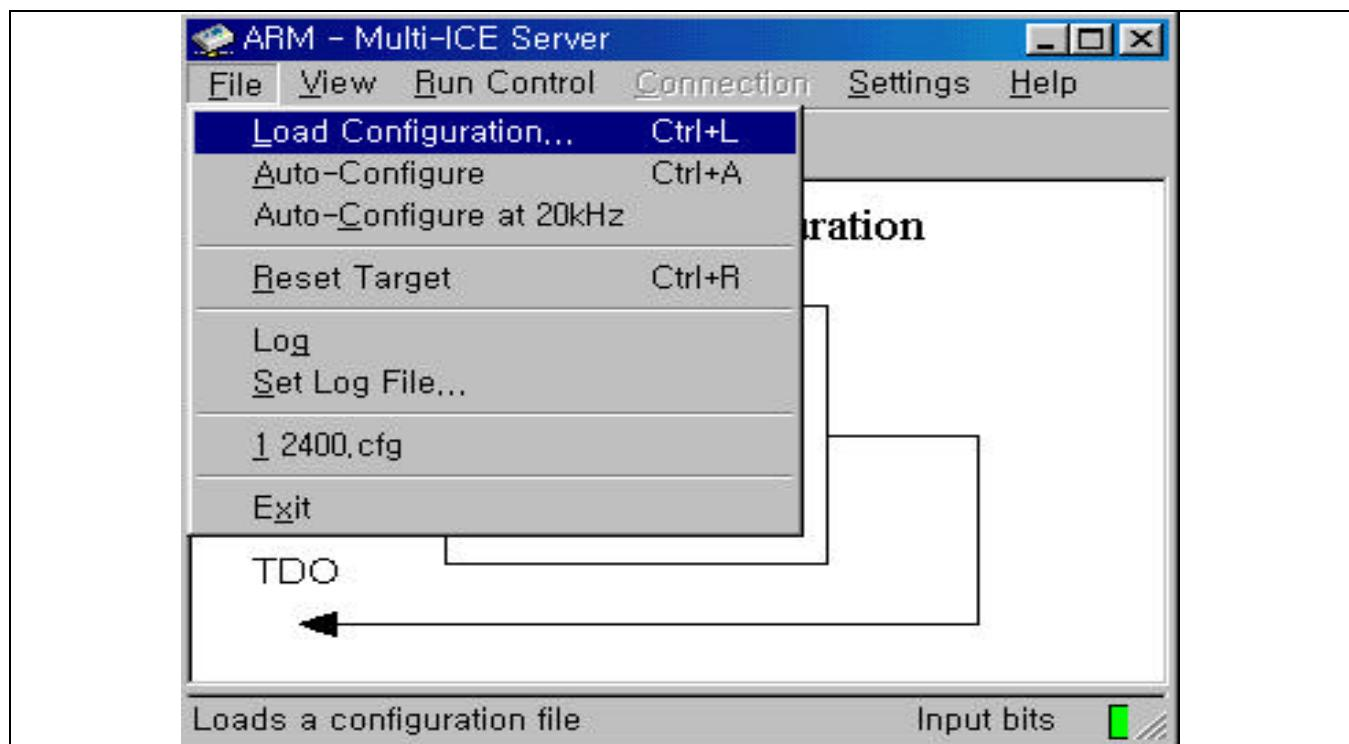

Figure 2-8. Load Configuration
3. Select Load Configuration from File menu and load 2400.CFG (See Figure 2-8).